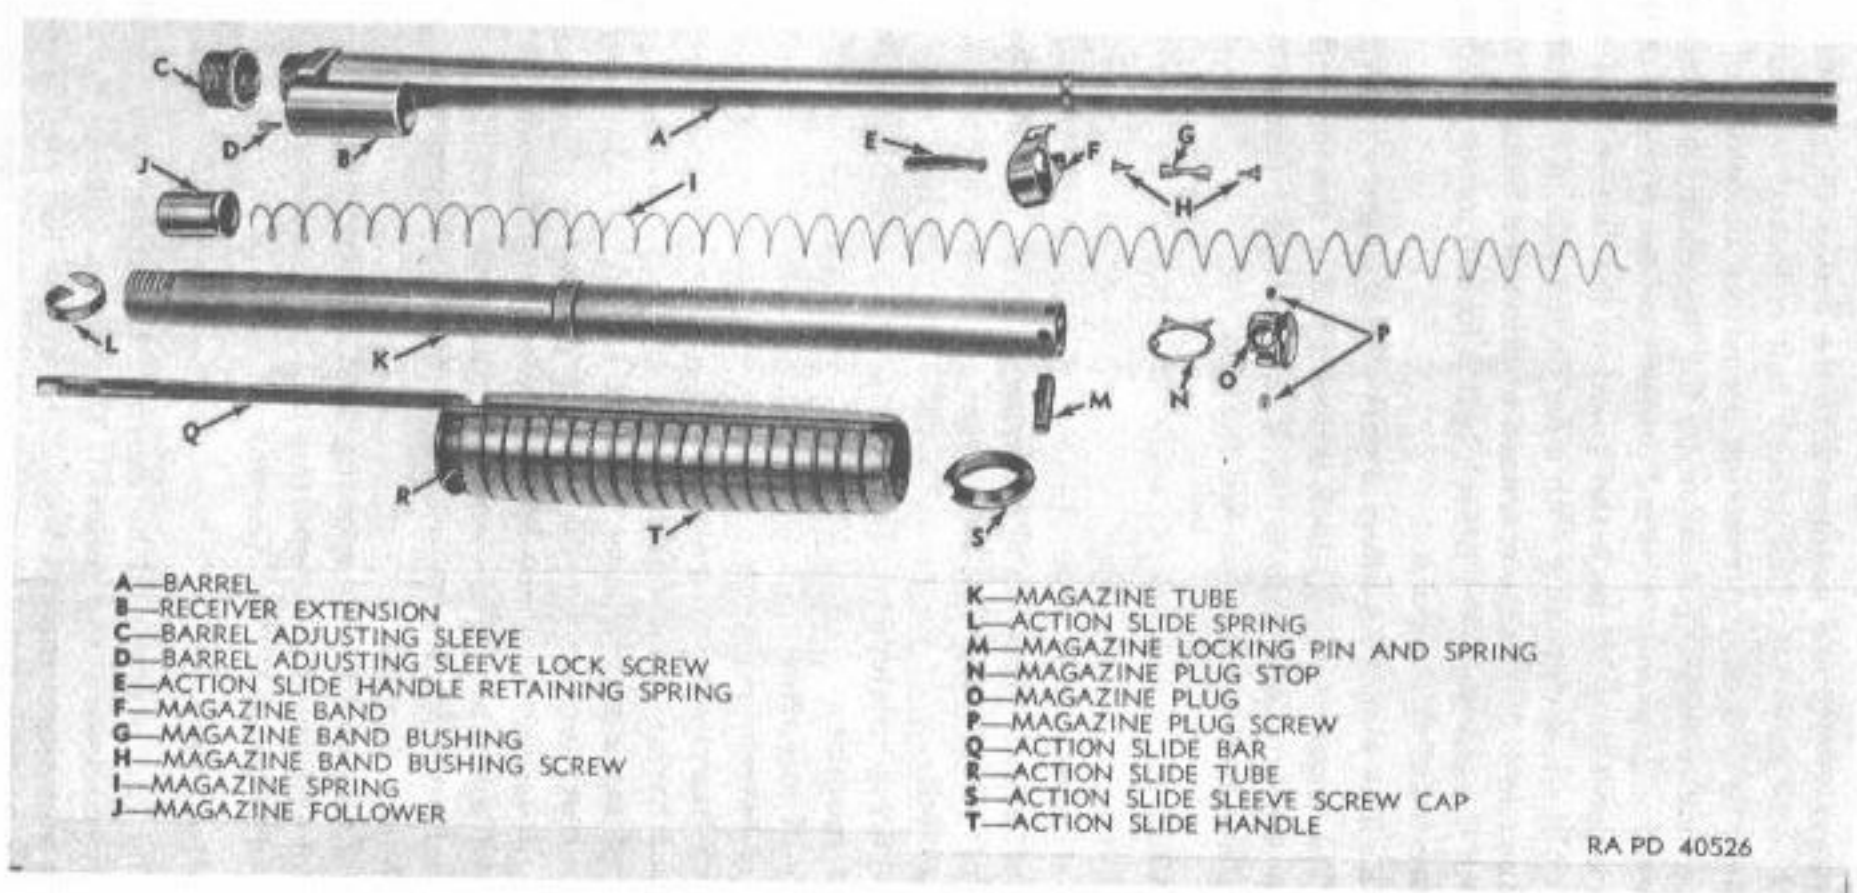

Figure 20—Barrel, Magazine and Action Slide Groups—Disassembled View—Winchester Shotgun M12 (Take-down)
d. General Description (figs. 20, 21, 26 and 27).
(1) The stock of the gun is bolted to the rear end of the receiver and the barrel and magazine locked to the forward end of the receiver as already explained in paragraph b above. The action slide is mounted and operates on the magazine. The rear end of the slide or bar passes through the forward end of the receiver, and engages with, reciprocates, and cam-operates the breech bolt, which in turn operates the carrier and cams back and cocks the hammer.
(2) The receiver contains the operating mechanism; and to its lower rear end is attached the trigger guard to which is mounted the firing mechanism, carrier and action slide lock. The receiver is open at the bottom to permit loading, and the right side for ejection of the fired shell cases. The ejector is seated in the inner left wall of the receiver.
(3) The breech bolt contains the extractors, the firing pin, and firing pin retractor by which the firing pin is cammed back from the face of the bolt and blocked from being driven forward by the hammer until the bolt is locked in position.
(4) The trigger guard contains the hammer, trigger, trigger (safety) lock, carrier, and action slide lock mechanism together with their springs and components.
(5) The magazine which is of the tubular type is positioned beneath the barrel and has a capacity of five shells loaded end to end. The shells are pressed together and fed into the receiver by the force of the magazine spring acting upon the follower.
(6) The shell cut-off is pivoted in the left inner wall of the receiver, just to the rear of the magazine opening and acts to hold the shells in the magazine against the pressure of the magazine spring. The cut-off is operated by the action slide bar to release and block the shells at the proper time, thus allowing but one shell to enter the receiver at a time. The carrier assumes the function of the cut-off while the latter is cammed back from the blocking position by the action slide bar.
### 16. REMOVAL OF GROUPS (figs. 20, 21, 26 and 27).